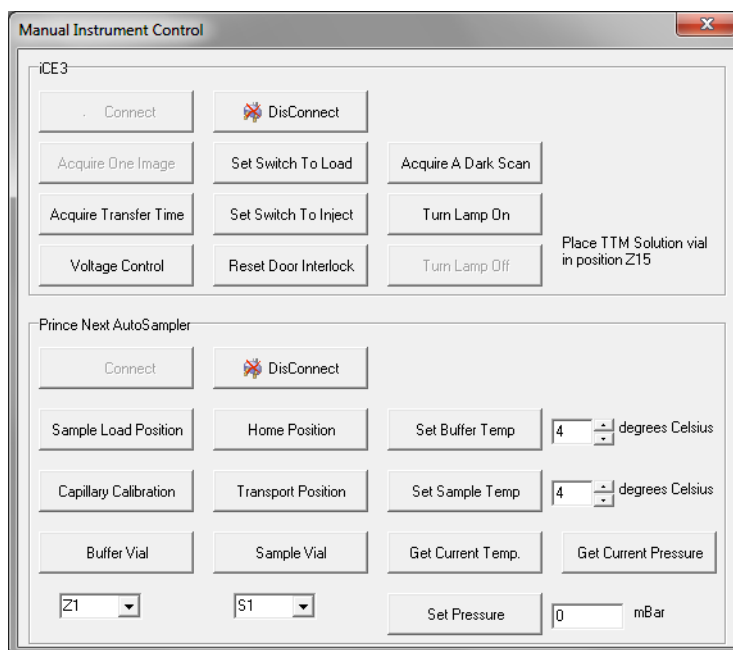

Figure 4-23: PrinCE Next autosampler connected.
3. In the PrinCE Next autosampler box, click **Connect**. Wait for the software to connect to the autosampler. When the connection is made, the buttons will become active (Figure 4-23).